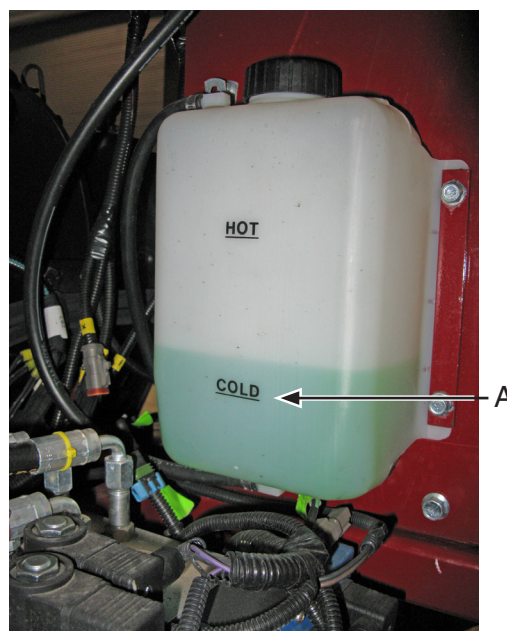

Figure 57. Coolant Overflow Tank (tank may vary between models)
2. Check coolant level (A). It must be visible in the overflow tank between the HOT and COLD marks (see Figure 57).